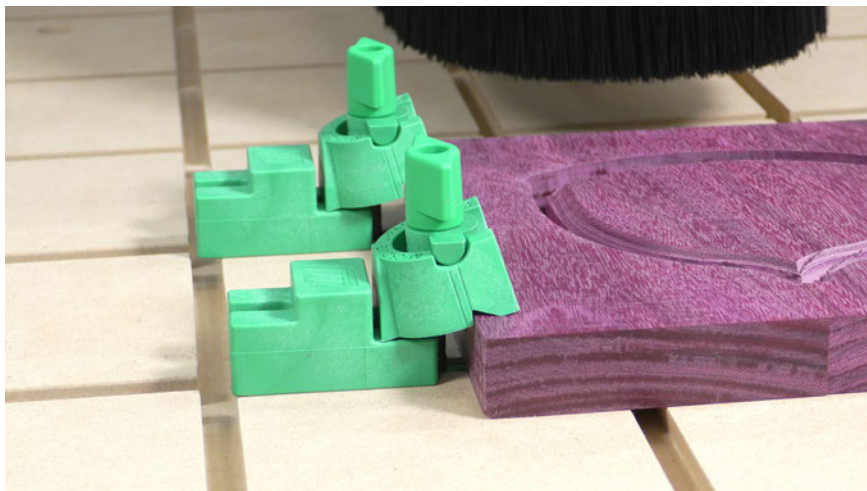

Fig 8a - U-Pad Angle
- 8.2. Adjust the position to capture the corner edge of the stock in the notch of pad 4A. (Fig 8a)